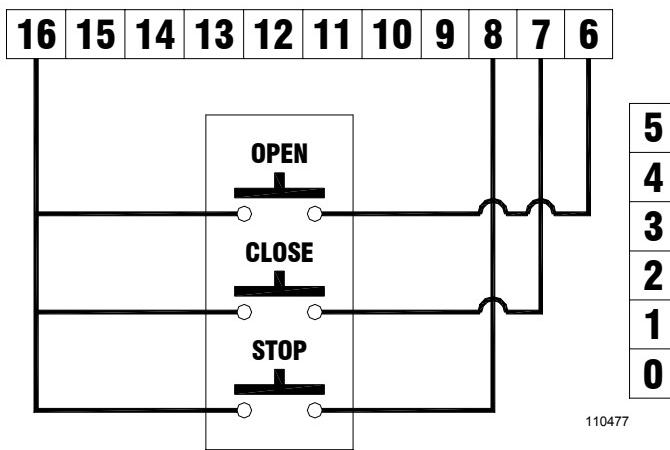

Figure 12: Wiring a Three Button Station
**NOTE:** THREE BUTTON STATIONS MAY BE ORDERED WITH THE STOP BUTTON AS NORMALLY OPEN OR NORMALLY CLOSED. THE RS1000 WILL OPERATE **ONLY WITH A NORMALLY OPEN STOP BUTTON.** See Figure 12 for instructions on wiring a three button station.